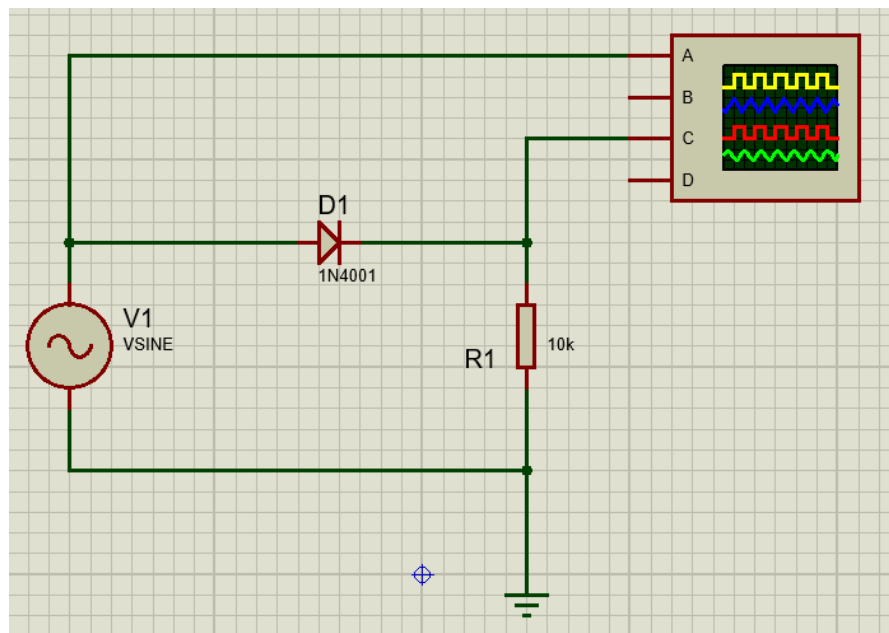

Figure 1: Half Wave Rectifier Circuit Using Proteus
11. Start placing components on the schematic board by referring to the Figure 1.